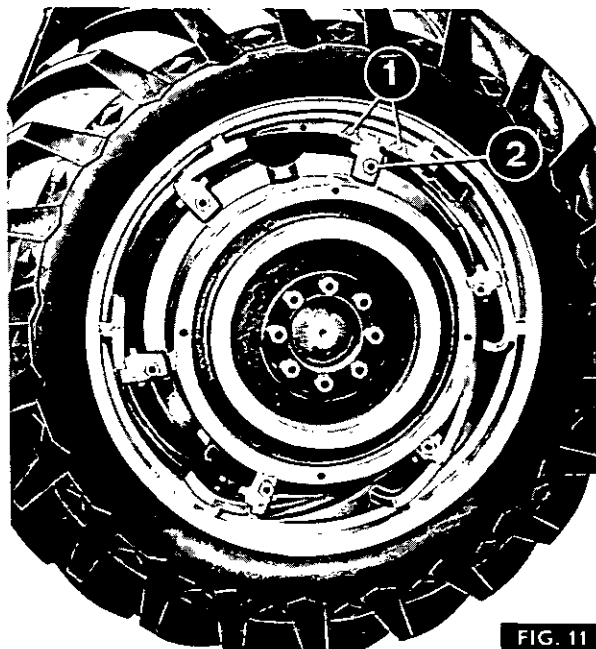
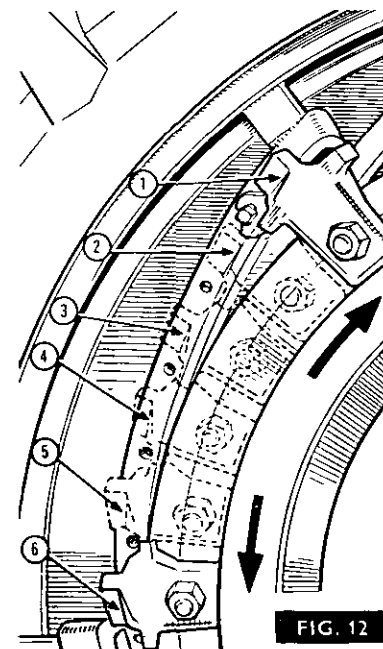

FIG. 11
FIG. 12
Pressed steel, single, disc wheels (Fig. 11).
Pressed steel rims, with cast iron centre discs capable of power adjustment of the track (P.A.V.T.) (Optional Extra) (Fig. 12).
Fig. 12. Five settings are obtainable with the wheels set normally, from 1422 mm (56 in) to 1930 mm (76 in). When the wheels are reversed, track widths from 1727 mm (68 in) to 2235 mm (88 in) are obtainable. See Table 2.
1. Fig. 11. Remove the two pins (1) from the rim stops.
3. Refit a rim stop pin to the rim stop position in item 2.
4. Fig. 12. Slacken the six rim stop clamp nuts (2).